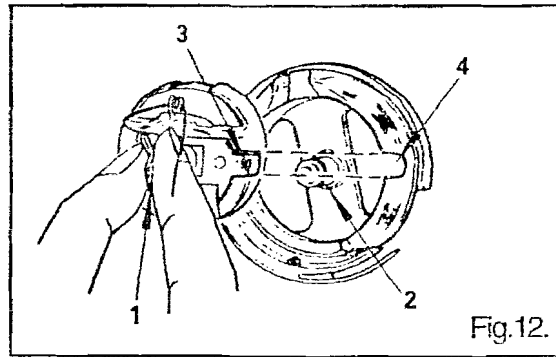

Fig.12.
11.MOUNTING OF THE BOBBIN CASE(Fig. 12)